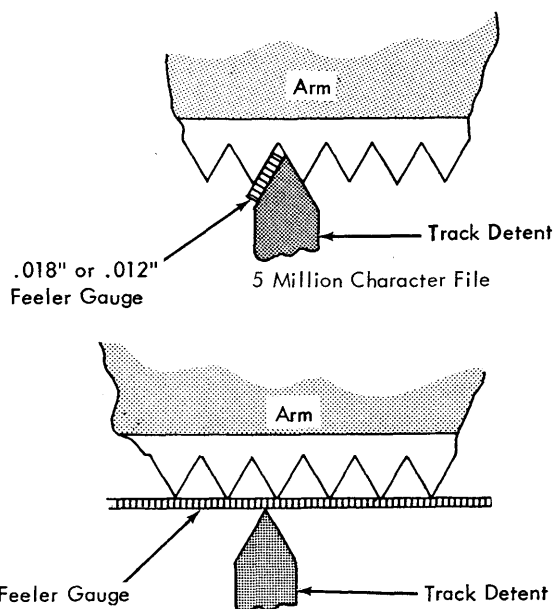

Figure 71. Track Detent Adjustments
### ADJUSTMENT (10 Million Character File) (Figures 71 and 72)
7. Place a .005" feeler gage between the arm teeth and any detent (bottom Figure 71). Apply air. The N/C contact should be open. If it is not open, steps 4 and 5 were not done correctly or the switch is not within specifications. If the latter is the case, replace the switch.